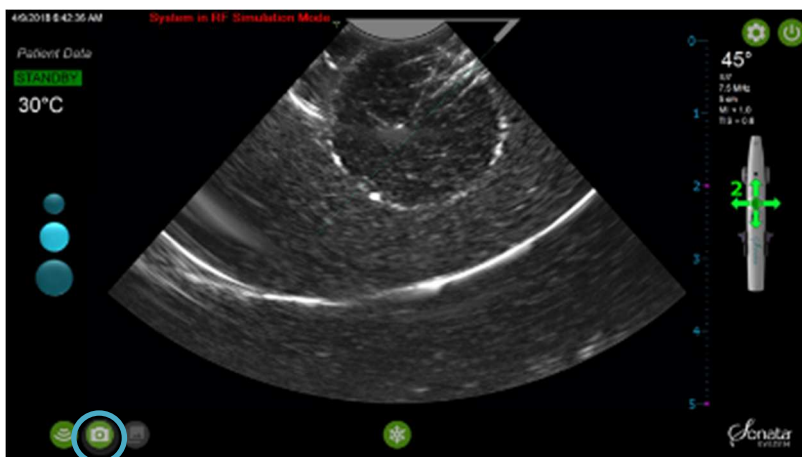

Figure 6-11. Capture Still Image.
- Click the Still Image Capture icon , see Figure 6-11.